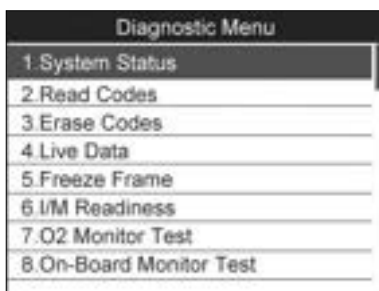

Figure 5.3
- 7) View a summary of system status (MIL status, DTC counts, Monitor status) on screen (*Figure 5.1*). Press **OK** button for **Diagnostic Menu** (*Figure 5.3*) to come up.
- 1) Use the **UP/DOWN** scroll buttons to select **Erase Codes** from **Diagnostics Menu** and press the **OK** button (Figure 5.3).
- 1) To view live data, use the **UP/DOWN** scroll button to select **Live Data** from **Diagnostic Menu** and press the **OK** button (Figure 5.3).
- 1) To view freeze frame data, use the **UP/DOWN** scroll button to select **Freeze Frame** from **Diagnostic Menu** and press the **OK** button (*Figure 5.3*).